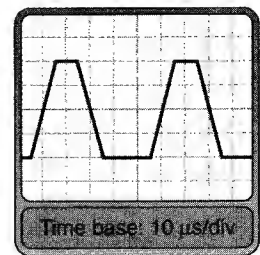

FIGURE 19.51
7. Determine the values of PW and T_C for the waveform in Figure 19.51.
9. Calculate the duty cycle of the waveform in Figure 19.51.